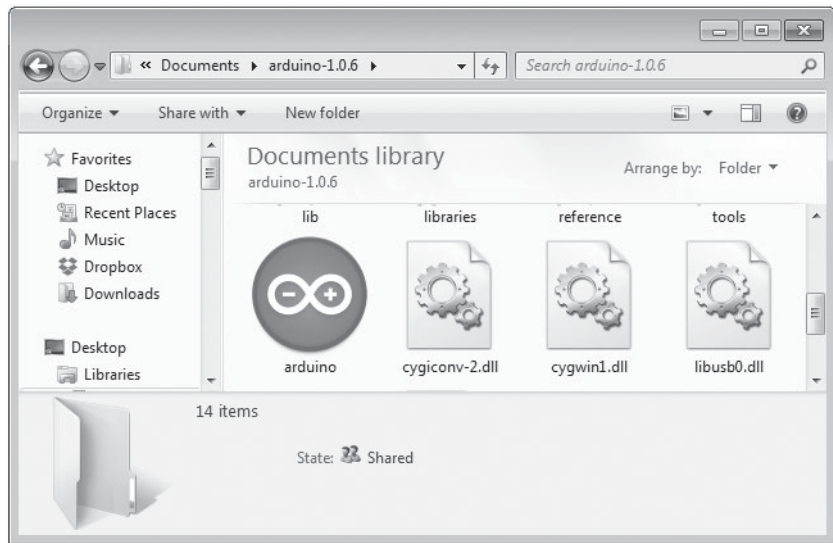

Figure 1-18: Your IDE folder with the Arduino application icon
4. Copy the folder named *arduino-1.0.6-windows* (or something similar) to the location where you store your applications. Once the copying is finished, locate the folder and open it to reveal the Arduino application icon, as shown in Figure 1-18. You may wish to copy the icon and place a shortcut on the desktop for easier access in the future.